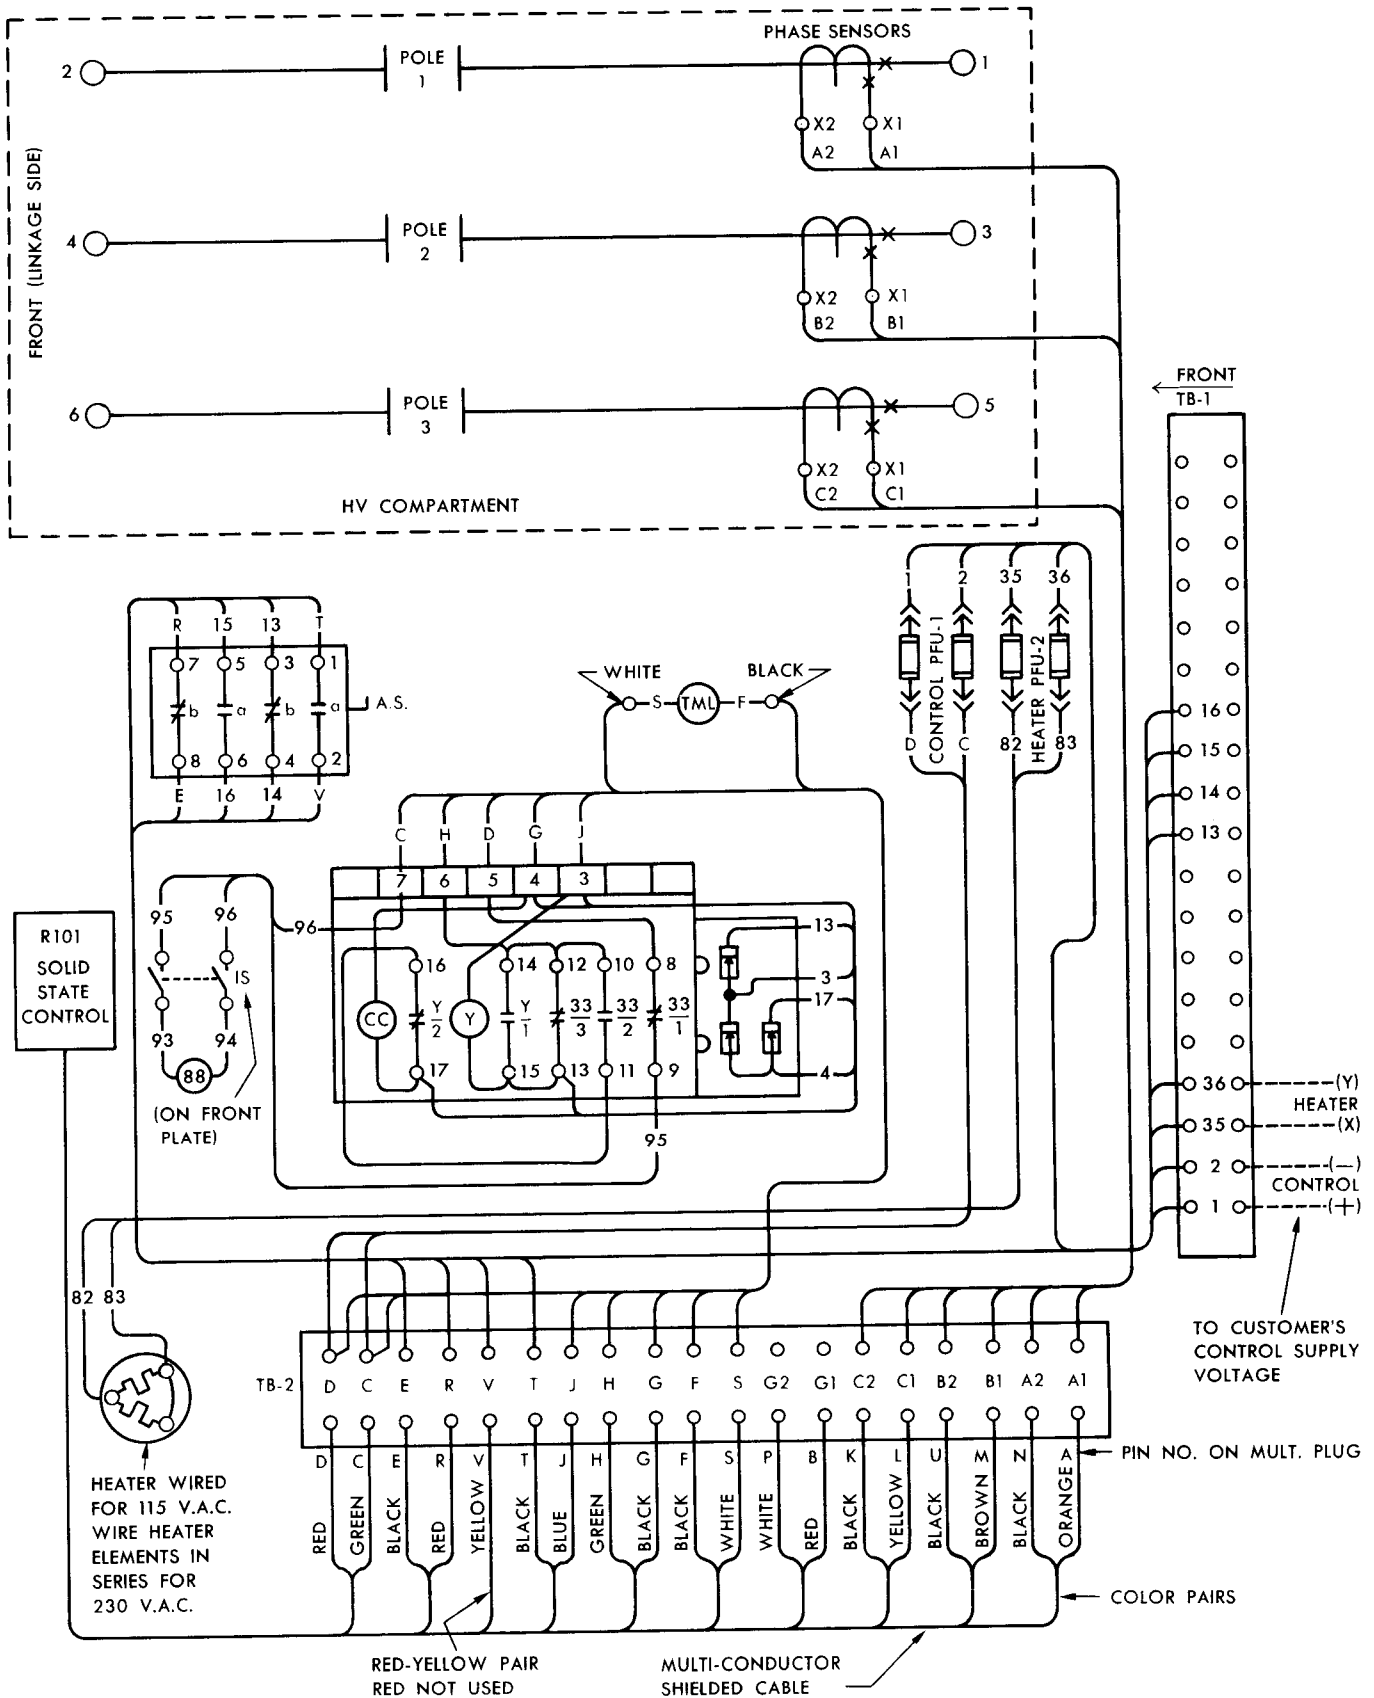

Fig. 6. Typical Connection Diagram for Vacuum Recloser (Rear View). Refer to Drawings for Actual.
1. Remove the control source fuse blocks—PFU-1 in Figure 6.